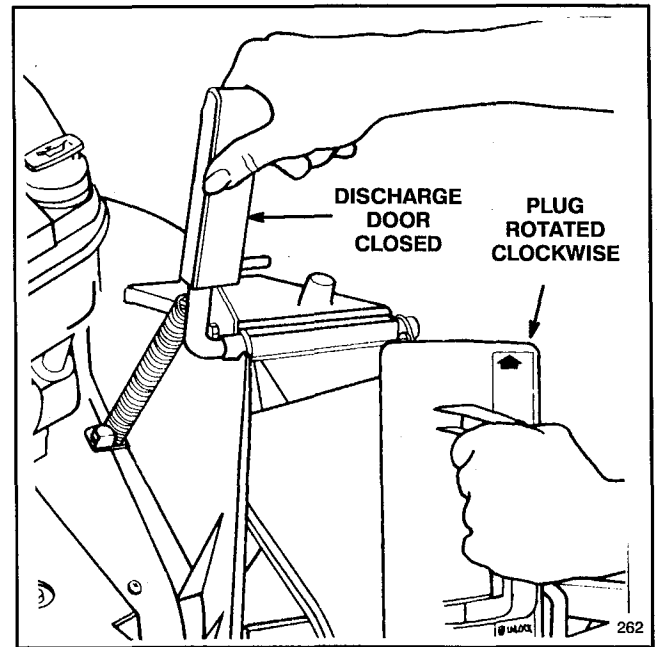

Figure 14
1. Make sure engine is off. Open the discharge door by pulling forward on the handle and moving it rearwards (Fig. 14). Hold the discharge door handle to prevent the spring-loaded door from closing while inserting the plug.
2. Since the plug is slightly wider than the discharge tunnel opening, you must rotate the plug clockwise slightly while inserting it (Fig. 14). Make sure the arrow on the plug decal is pointing upwards.